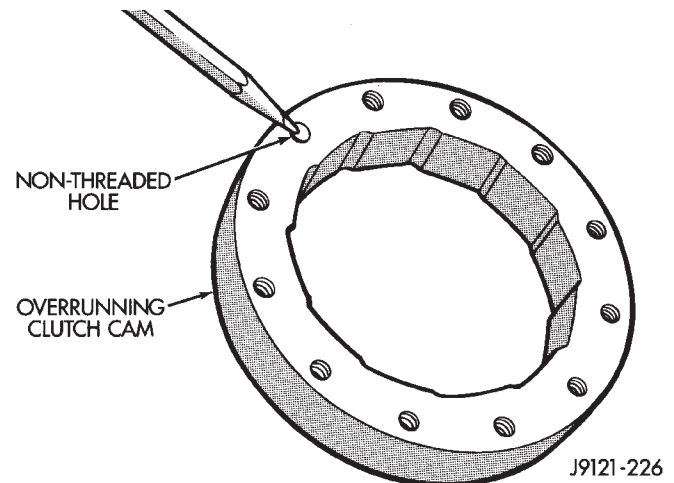
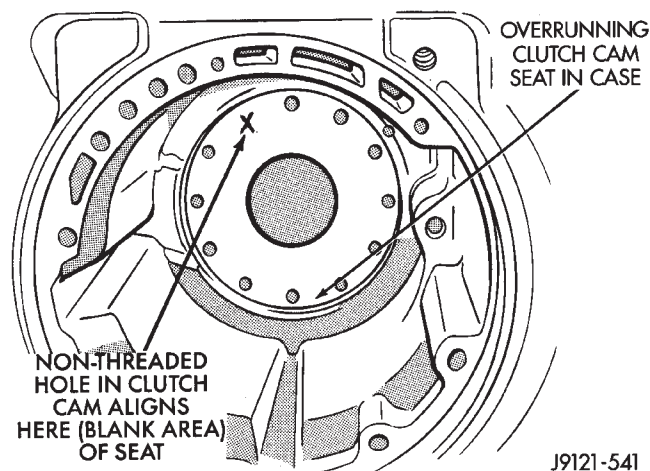
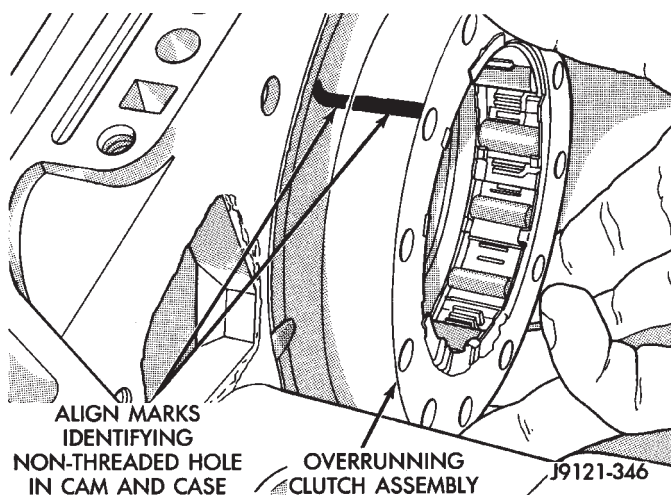

Fig. 156 Location Of Non-Threaded Hole In Clutch Cam
Fig. 157 Location Of Blank Area In Clutch Cam Bolt Circle
Fig. 158 Overrunning Clutch Installation
(4) Examine bolt holes in overrunning clutch cam. Note that one hole is **not threaded** (Fig. 156). This hole must align with blank area in clutch cam bolt circle (Fig. 157). Mark hole location on clutch cam and blank area in case with grease pencil, paint stripe, or scribe mark for assembly reference.
(5) Mark location of non-threaded hole in clutch cam and blank area in bolt circle with grease pencil.
(6) Align and install overrunning clutch and cam in case (Fig. 158). **Be sure cam is correctly installed. Bolt holes in cam are slightly counter-sunk on one side. Be sure this side of cam faces rearward (toward piston retainer).**
(7) Verify that non-threaded hole in clutch cam is properly aligned. Check alignment by threading a bolt into each bolt hole. Adjust clutch cam position if necessary.